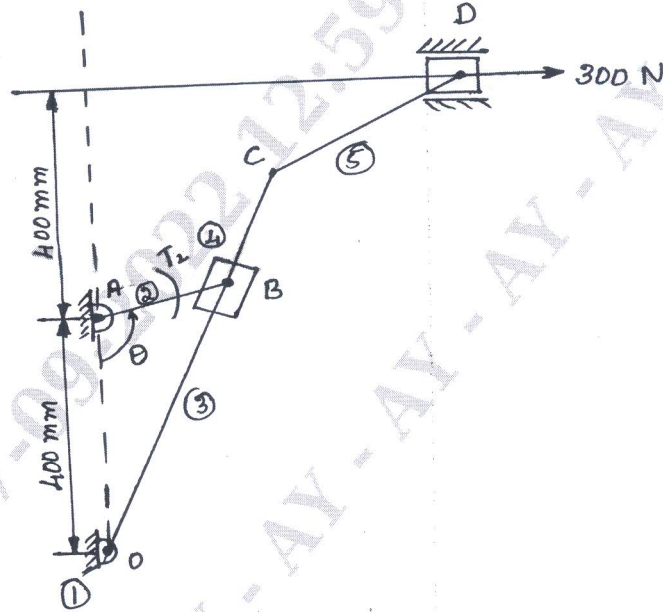

Fig Q4
- 4 For the static equilibrium of the quick return mechanism shown in Fig Q4. Find the required input torque  $T_2$  for the force of 300N on the slider D. Angle  $\theta = 105^\circ$ . Coefficient of friction  $\mu = 0.15$  for each sliding pair. The impending motion of the slider is to the left. Solve by Graphical method. Given  $AB = 200\text{mm}$ ;  $OC = 800\text{mm}$ ;  $CD = 300\text{mm}$ .